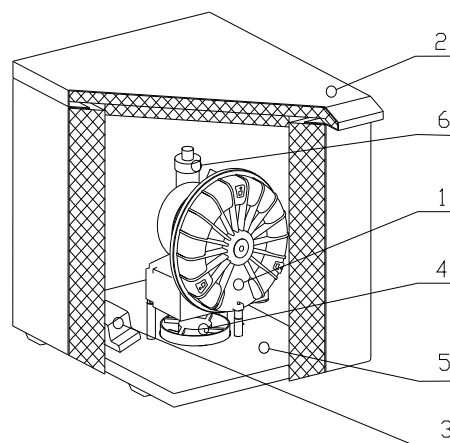

Fig.1
Suction pump (1) (Fig.1) creates vacuum in the pneumatic control module thus it aspirates foreign matters away from the working area of the physician and sucks them into the separator at the dental chair. Only clean air continues past the separator through the pump of the suction unit, and then, is pushed through a supplementary silencer (6) and continues through the output hose and vented to the environment outside of the building. Suction unit is switched on by means of a switching block (3) after receiving a signal from the dental chair (voltage 24V AC/DC) or by switching-on at the suction unit (switch - model „T“). Suction pump is mounted above the cooling fan (4) which is fixed to the base (5). The cooling fan draws air into the insulated soundproof metal box (2), which stands on feet to allow the air in, and vented slots in the rear to allow the air to blow through.